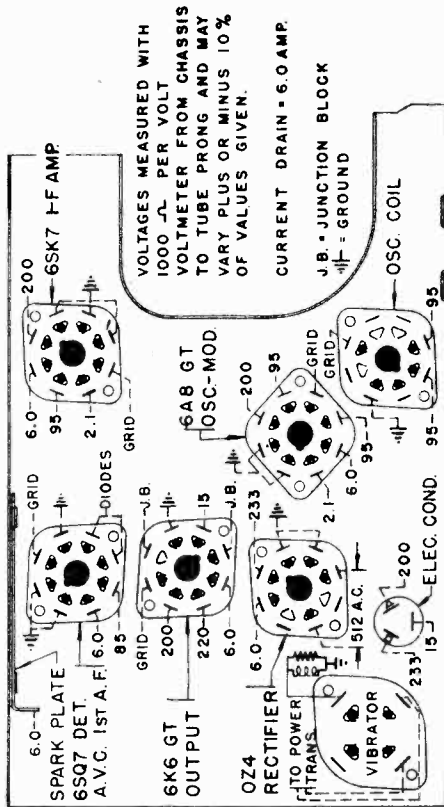

Fig. 3—Bottom View Model A-250
- (d) Adjust both trimmers on the 2nd. I-F transformer for maximum output. (See figure 3).